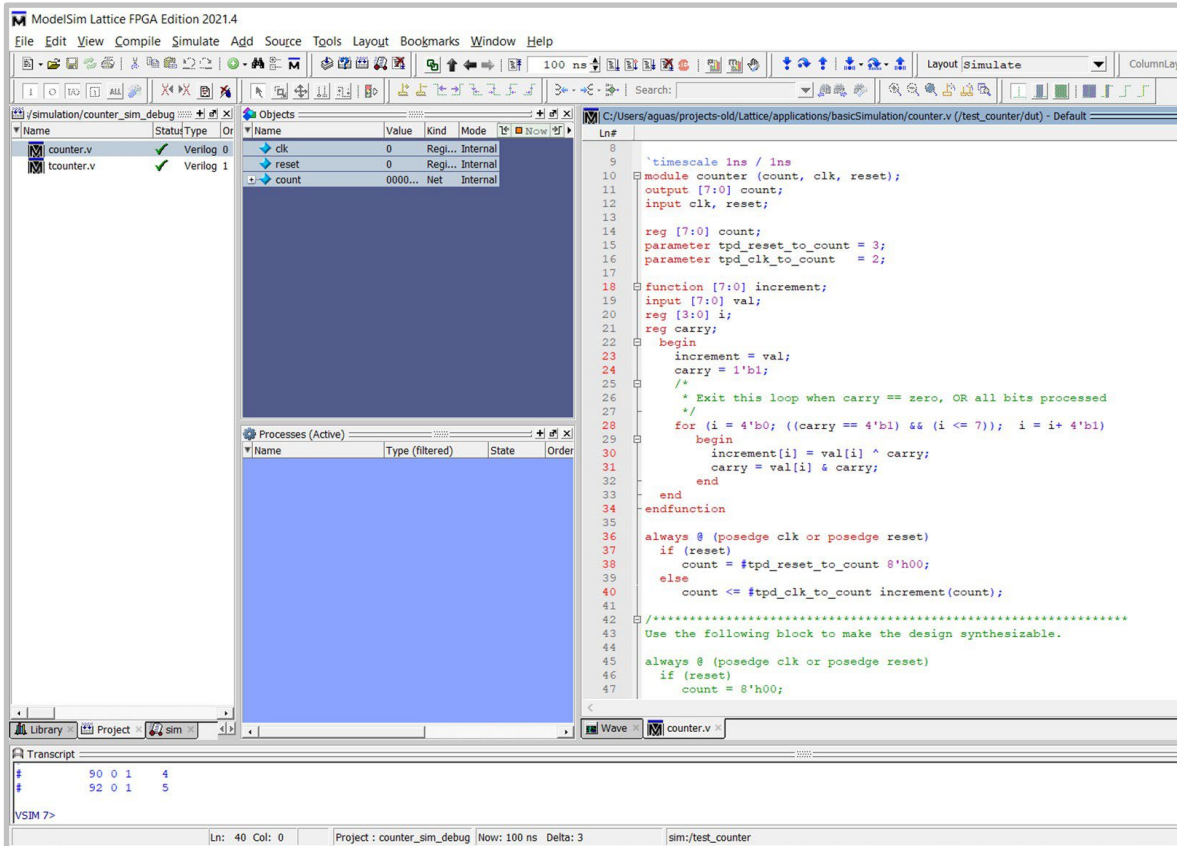

Figure 8: Debugging HDL Code
9. In the project window, right-click on **counter.v** and select **Edit**, the **counter.v** file opens next to the **Wave** window, see **Figure 8**.